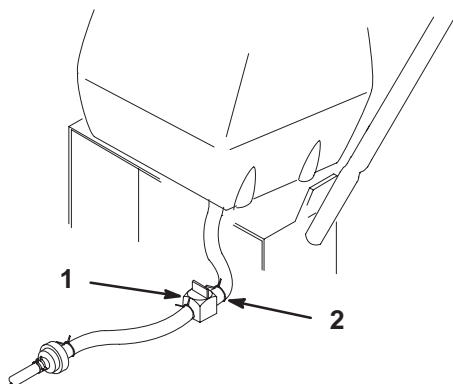

Figure 37
2. Close fuel shut-off valve at fuel tank (Fig. 37).
3. Squeeze the ends of the hose clamp together and slide it up the fuel line away from valve (Fig. 37).
4. Pull the fuel line off the valve (Fig. 37). Open fuel shut-off valve and allow gasoline to drain into a gas can or drain pan.
6. Open fuel shut-off valve at fuel tank (Fig. 37).
7. Check for fuel leaks and repair if needed (Fig. 37).